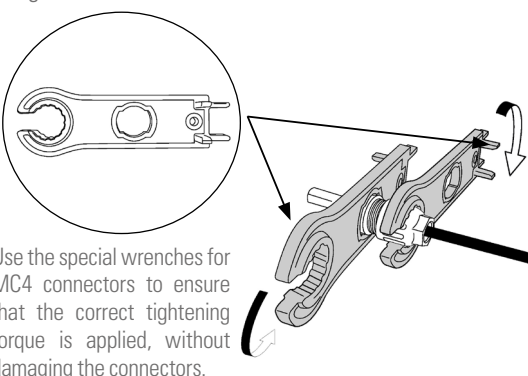

Fig. 25. Using an open-end wrench.
- f. Use an open-end wrench to screw the nut all the way in and make sure that the terminal is sealed well, as shown in Fig. 25: